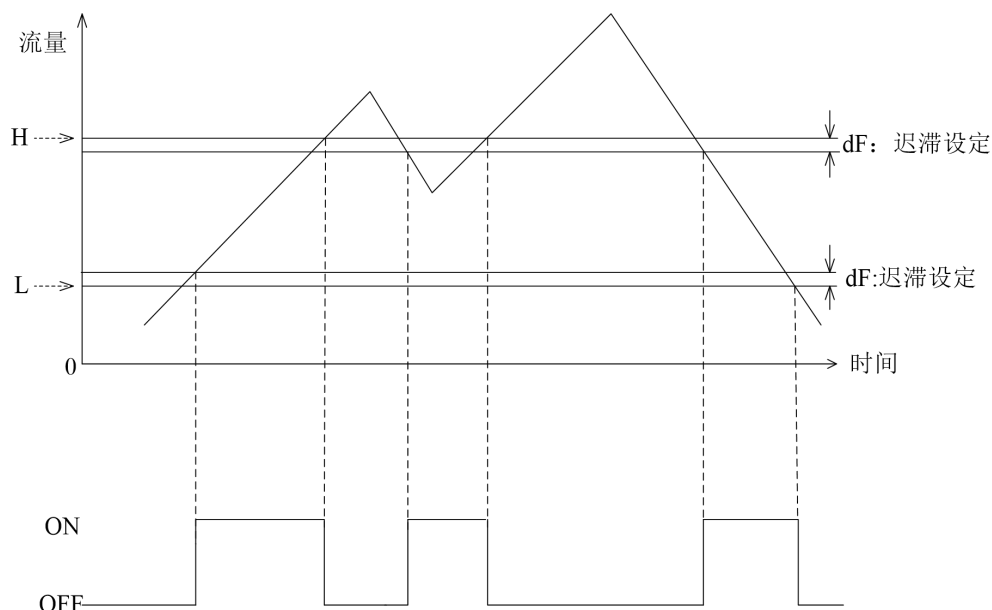

Figure 1 Schematic diagram of output window mode (low level overlimit)
- (FU flow upper limit), (FL flow lower limit) The flow range L-H is referred to Figure 1.